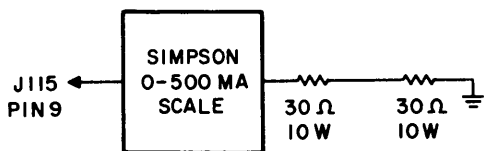

Figure 5-3. Power Supply, Test Setup
c. **POWER SUPPLY ALIGNMENT.** (See figure 5-3.) Perform the power supply alignment procedure as follows:
- (1) With ac line cord removed; all cards disconnected from the unit; and STANDBY-ON switch to ON, measure resistance from J111-S to ground (1.5K-ohms minimum).
- (2) Measure resistance from J103-14 to ground (200 ohms minimum).
- (3) Turn STANDBY-ON switch to STANDBY and insert Z303 and Z304 into unit.
(17) Turn power switch to STANDBY position and METER switch to Q1 position. Adjust Meter Adjust potentiometer R142 (located at rear of METER switch) for equal readings on front panel meter and Simpson Model 260, as shown in test setup of figure 5-3.